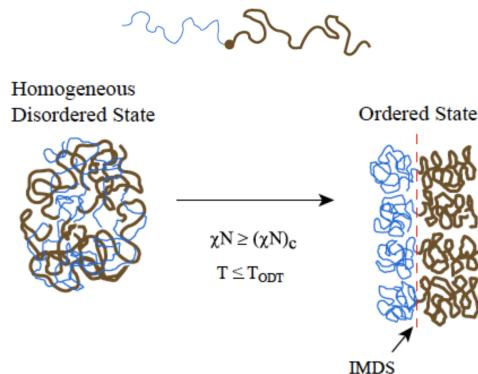

Figure 2.18: Ordering of a diblock copolymer.
- The subscript *c* in Figure 2.18 means “critical.”